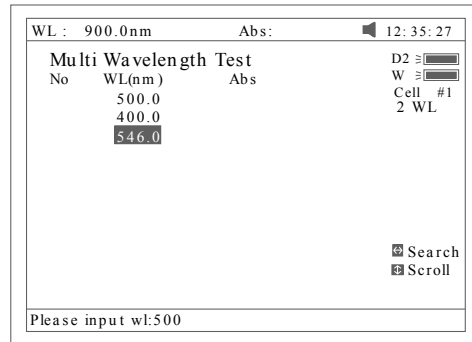

Fig 69
1. Press **[F1]** to setup a group of wavelengths for testing by pressing the numeric keypad followed by **[ENTER]**. [\wedge] or [\vee] to modify the inputted data Fig 69. Press **[ESC/STOP]** to finish setup and exit.